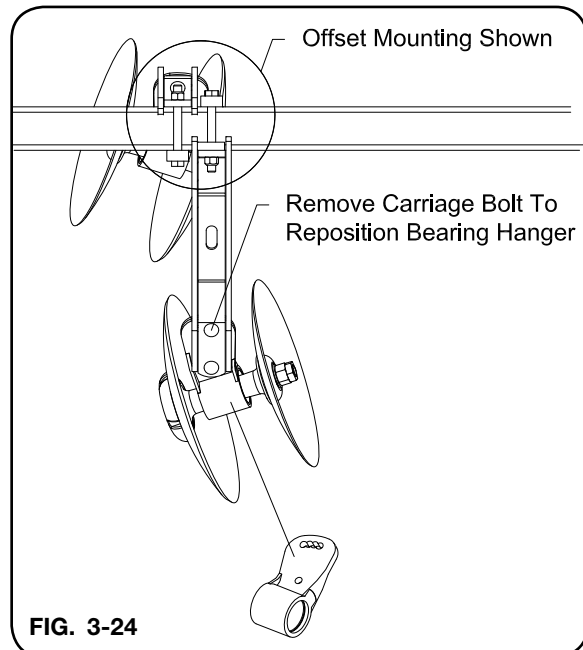

FIG. 3-24
2. Remove the carriage bolt shown in Fig. 3-24. Loosen the other carriage bolt to make it easier to adjust.